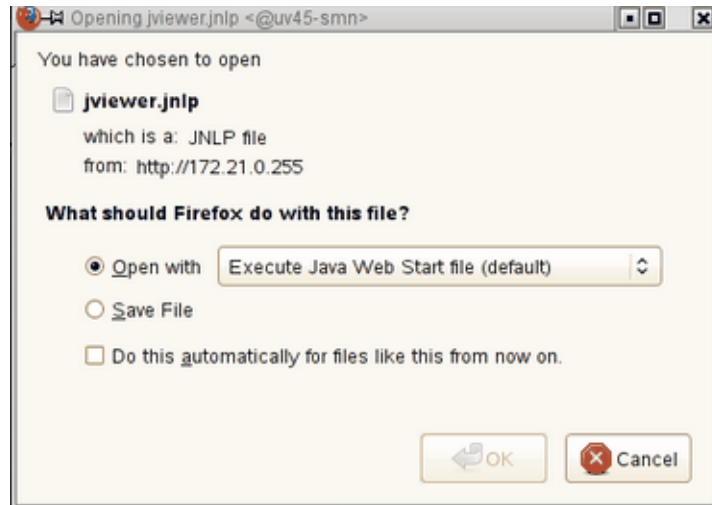

Figure 3-5 Select Execute Java Web Start file (default) Pop-up Menu
8. A Java application under Firefox will open. **Select Execute Java Web Start file (default)** from the pop-up menu, as shown in Figure 3-5 on page 47. You can also click the checkbox to keep it from showing up later.